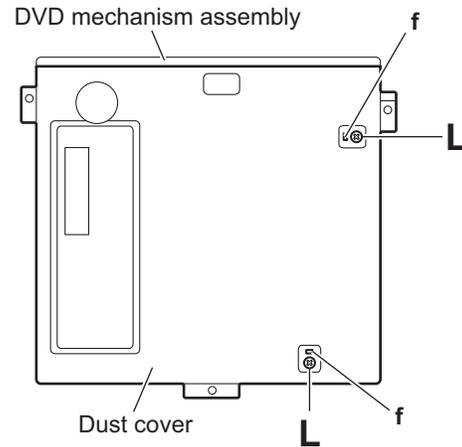

Fig.9
3.1.8 Removing the main sub board (See Figs.9 to 11)
- From the top side of the DVD mechanism assembly, remove the two screws **L** attaching the dust cover. (See Fig.9.)
- Remove the dust cover from the DVD mechanism assembly. (See Fig.9.)
When attaching the dust cover, align the joints **f** in the holes of the dust cover before attaching the screws **L**. (See Fig.9.)